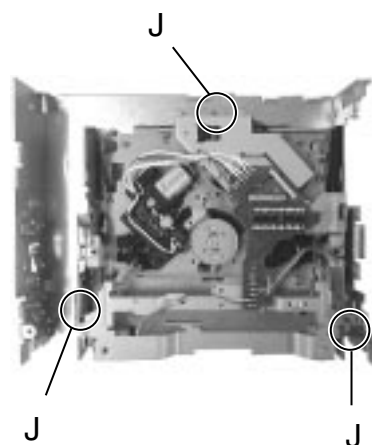

Fig 8
■ CD mechanism assembly (See Fig. 8)